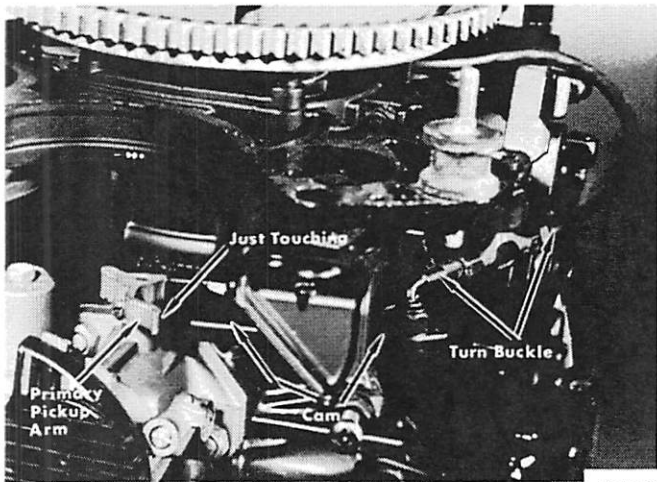

Figure 2. Adjusting Primary Pickup
2. Hold control arm in above position and adjust turnbuckle so that cam just touches primary pickup arm (located on carburetor cluster). (Figure 2) Tighten 2 jam nuts.
3. Adjust turnbuckle so that cam just touches primary pickup arm on carburetor cluster. Tighten 2 locknuts. (Figure 2)